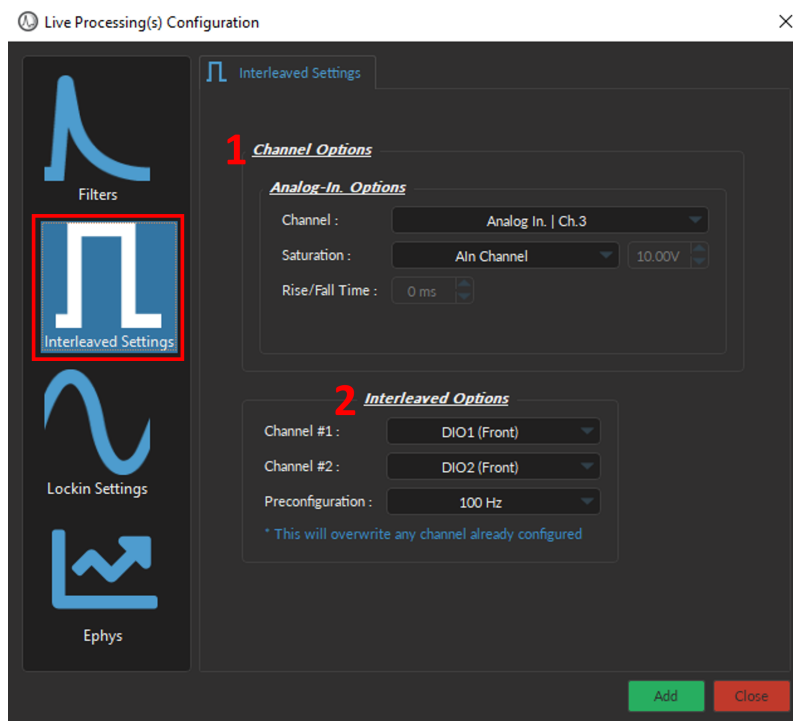

Figure 16.72: Live Processing, Interleaved
1. The **Channel Options** (Fig. 16.72, 1) contains the following parameters:
- 2. The **Interleaved Options** (Fig. 16.72, 2) contains the following parameters: